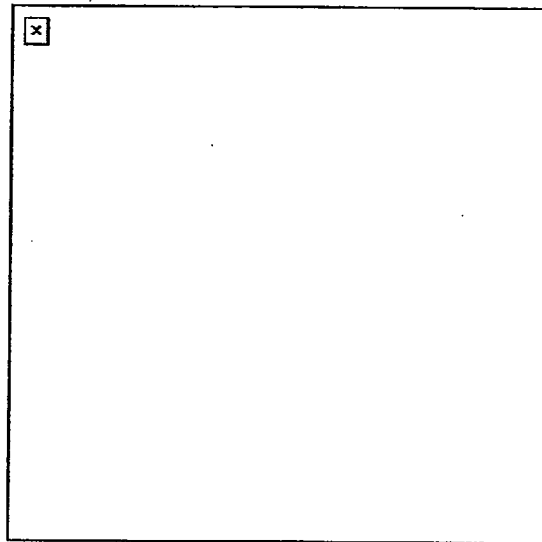

Figure 1. Vehicle capabilities.
1. Use the map and compass method (Figure 1).
- b. Locate two known positions on the ground and mark them on your map (A, Figure 1).
- c. Using your compass, measure the magnetic azimuth to one of the known locations; change it to a grid azimuth (B, Figure 1.)
- (1) If it is a westerly G-M angle, subtract the number of degrees in the G-M angle from your magnetic azimuth.
- (2) If it is an easterly G-M angle, add the number of degrees in the G-M angle to your magnetic azimuth.
- f. Repeat paragraphs c through e for a second (C, Figure 1, and third (D), Figure 1) known position.
- (1) Most military vehicles can knock down a tree. Larger vehicles can clear more trees but cannot knock down several trees at once. Find paths between trees that are wide enough for the vehicle (Figure 1).